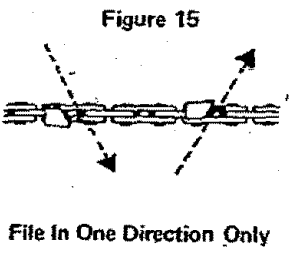

Figure 15
7. File in ONE direction only! Figure 15.